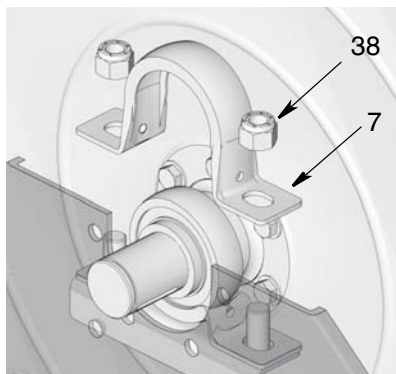

**FIG. 39**
- b. Position inlet (6) in the desired orientation on the base.
Medium Pressure Models ONLY: Align shim (36) between inlet (6) and ratchet (31) (FIG. 39).
- c. First install the side 2 bolts (4a and 4b) as shown in FIG. 39 through frame and inlet (6). Tighten bolts just enough to hold everything in place.
- d. Install the remaining bolts (4) (FIG. 39). Hand tighten and then torque all bolts to 13-16 ft. lbs (17.6-20.3 N•m).